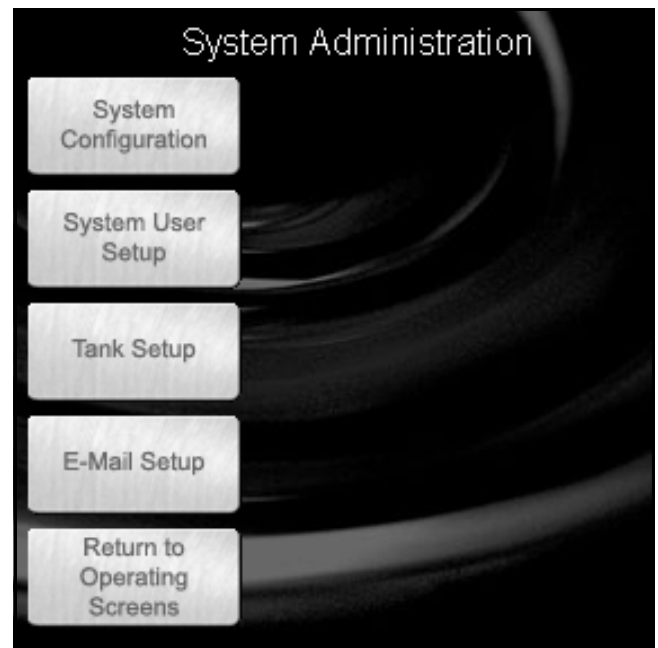

FIG. 35 System Administration Screen
1. Key in your user information and click **Submit**. For initial log on only, type in **matrix** (lowercase) for user name and **graco** (lowercase) for the password. Click **Submit**. Once the initial log on information is authenticated, the System Administration screen appears. See FIG. 35.